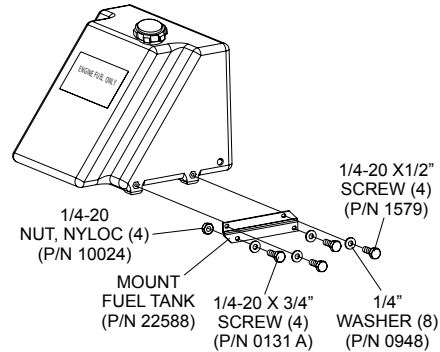

Figure 26. Fuel Tank Mounting Bracket
- Reinstall fuel tank onto trowel frame using new fuel tank mounting brackets (P/N 22588), 1/4-20 x 1/2 screws (P/N 1579), 1/4-20 x 3/4 screws (P/N 0131 A), 1/4" flat washers (P/N 0948) and 1/4-20 nuts (P/N 10024). See Figure 26.